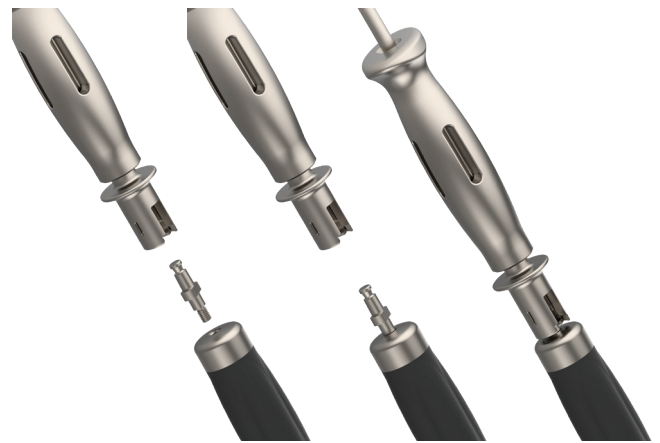

Figure 6b
- **Option B.** Insert a hudson adapter (330H0005) to the inline handle (300H0009), and connect the slap hammer to remove the trial (Figure 6b).